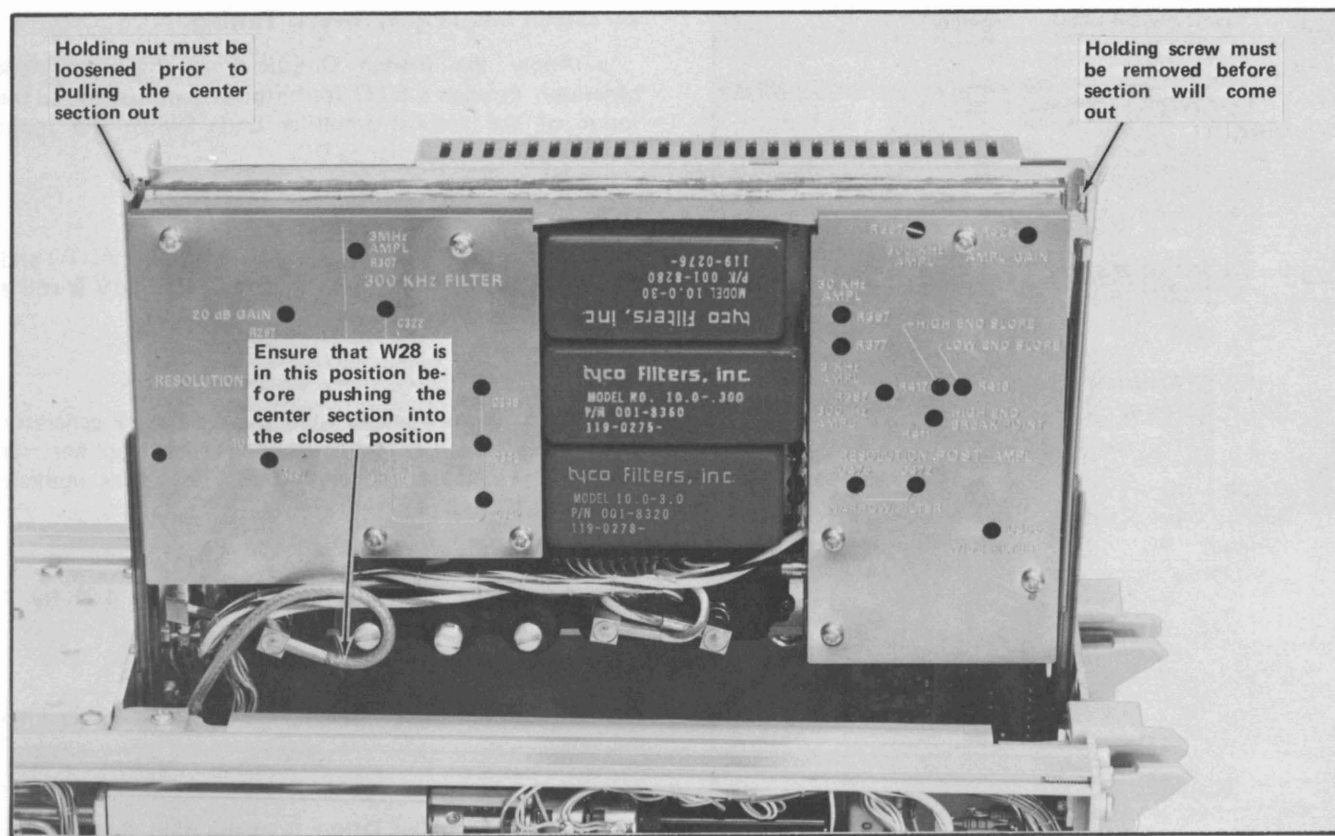

Fig. 4-1. Rackmounted center section pulled out to its latched detent, ready for servicing.
2. Remove the 7L12 from the oscilloscope compartment. Remove the holding screw for the rackmounted center section and pull the section out to its latch position (Fig. 4-1).
To replace the center section, turn the instrument on its side so the section can be pushed down into the instrument. Tap the assembly past the rail detents and ensure that the cables to the center boards are not binding its travel. See Fig. 4-1.